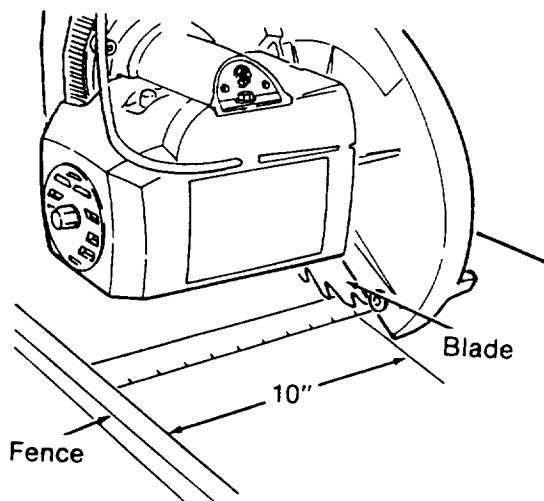

Fig. 110 - Out-Rip Reference
7. Move the *motor* until the *blade* is 10 inches in front of the *fence*. Use a framing square, ruler or tape measure to measure this distance. (Figure 110)